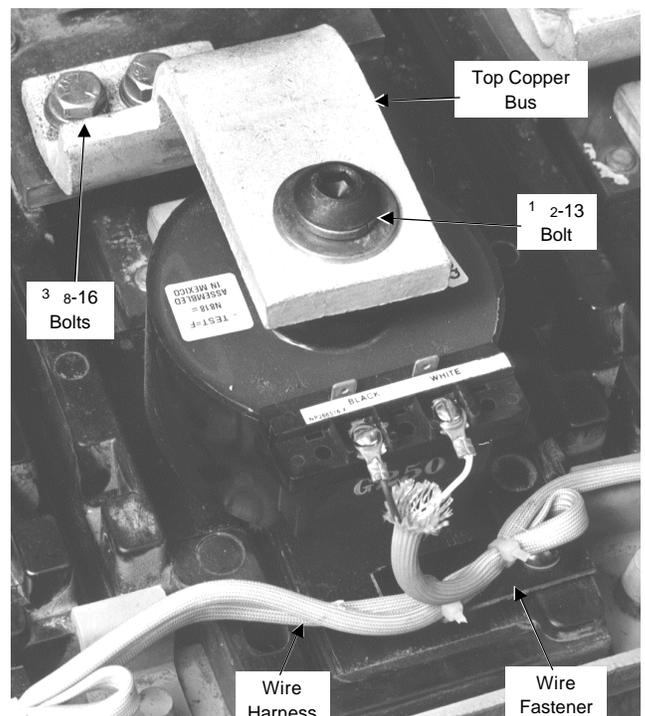

Figure 20. CT installation completed..
2. Fasten the three small insulated wire fasteners to the back frame with the $1 \text{ } 4\text{-}20 \times 1\frac{3}{4}$ " screws provided, as shown in Figure 20. One fastener is mounted under each CT.